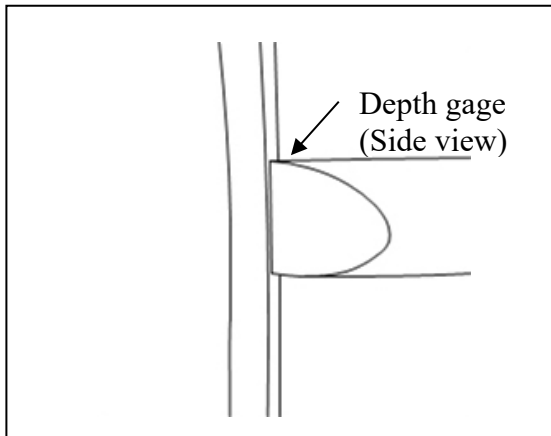

Fig. 3-2
**GAGE:** Align the adjustment tool to the edge of the door, with the angle edge positioned toward the inside of the door (Fig. 3-2).